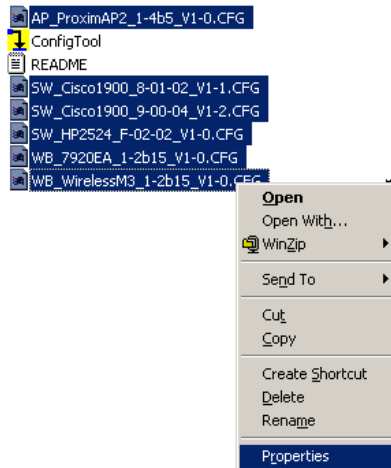

Figure 4-3 File Menu Showing Properties
Step 5. Place the cursor over any of the highlighted fields and **right-click** the mouse to display a menu listing **Properties**, as shown in Figure 4-3.